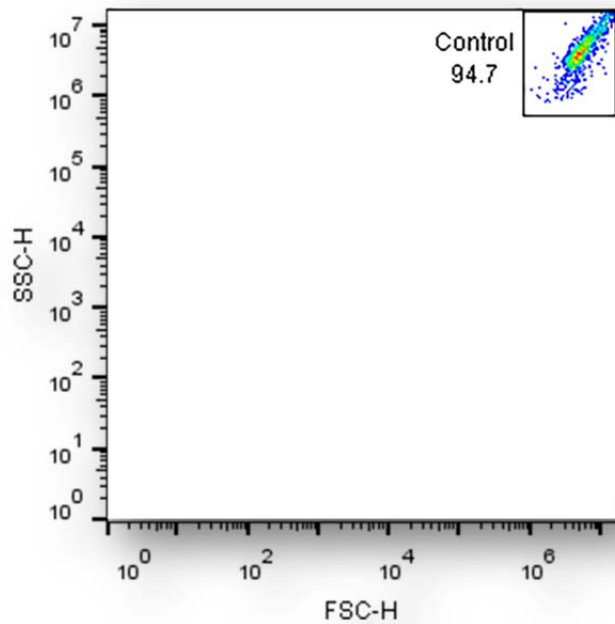

Figure 1. Control cell gate using forward and side scatter.
- b. During the first run, set forward and side scatter to log with sufficient voltage so that control cells appear just in the top right corner. Create a “Control” gate to include these cells (Figure 1).